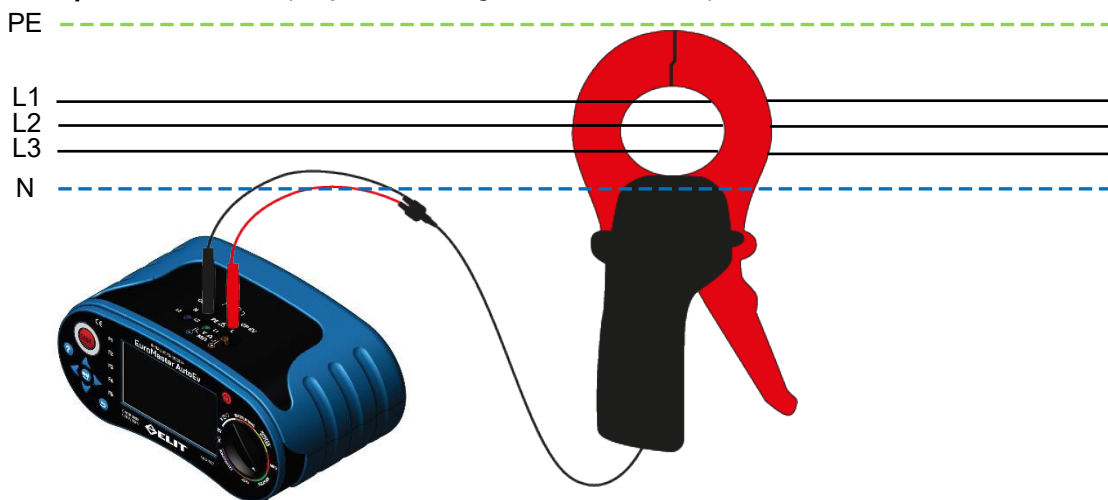

Figure 6.10.1 Adaptor/ Current Clamp connection.
- IV. Connect the Clamp adaptor as shown in Fig. 6.10.1 or 6.10.2 and connect it to the adapter terminal of the product.